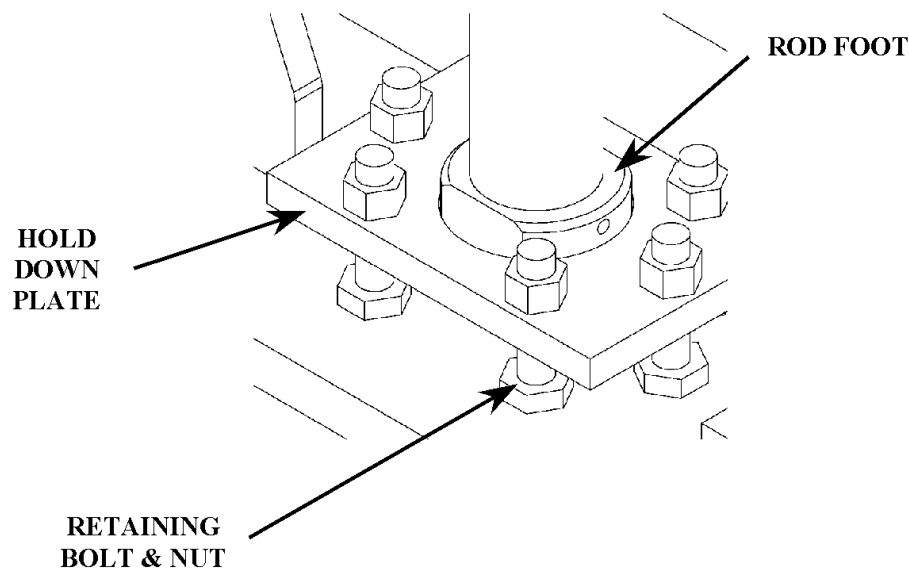

FIGURE 2 – retaining plate assembly
- The rod foot needs to be centered within the hold down plate. See figure 2.
7. The retaining nuts may appear to be loose. Do not over tighten the nuts on the retaining bolts shown in figure 2. There may appear to be a gap between the rod foot and the top jaw beam. This is natural. Only the cylinder shaft should be pushing against the top jaw, not the rod foot. The system is designed to allow the rod foot to adjust to any misalignment with the top jaw.